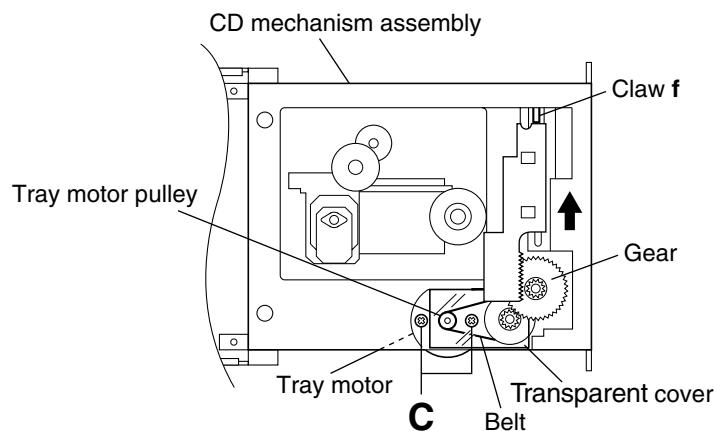

Fig.7
5. While pushing the claw **f** on the CD mechanism assembly downwards, slide the elevator fully in the direction of the arrow. (See Fig.7.)
6. Lift the gear slightly, remove the transparent cover. (See Fig.7.)
7. Remove the belt from the tray motor pulley. (See Fig.7.)
8. Remove the two screws **C** retaining the tray motor and remove it from the bottom side of the CD mechanism assembly. (See Fig.7.)